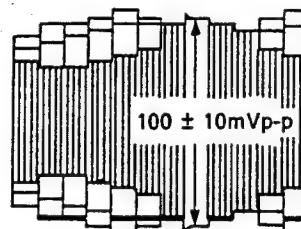

Figure 2-15.
4. Adjust R3304 (recording FM control) so that the sync tip be $100 \pm 10\text{mVp-p}$ as shown in Fig. 2-15.